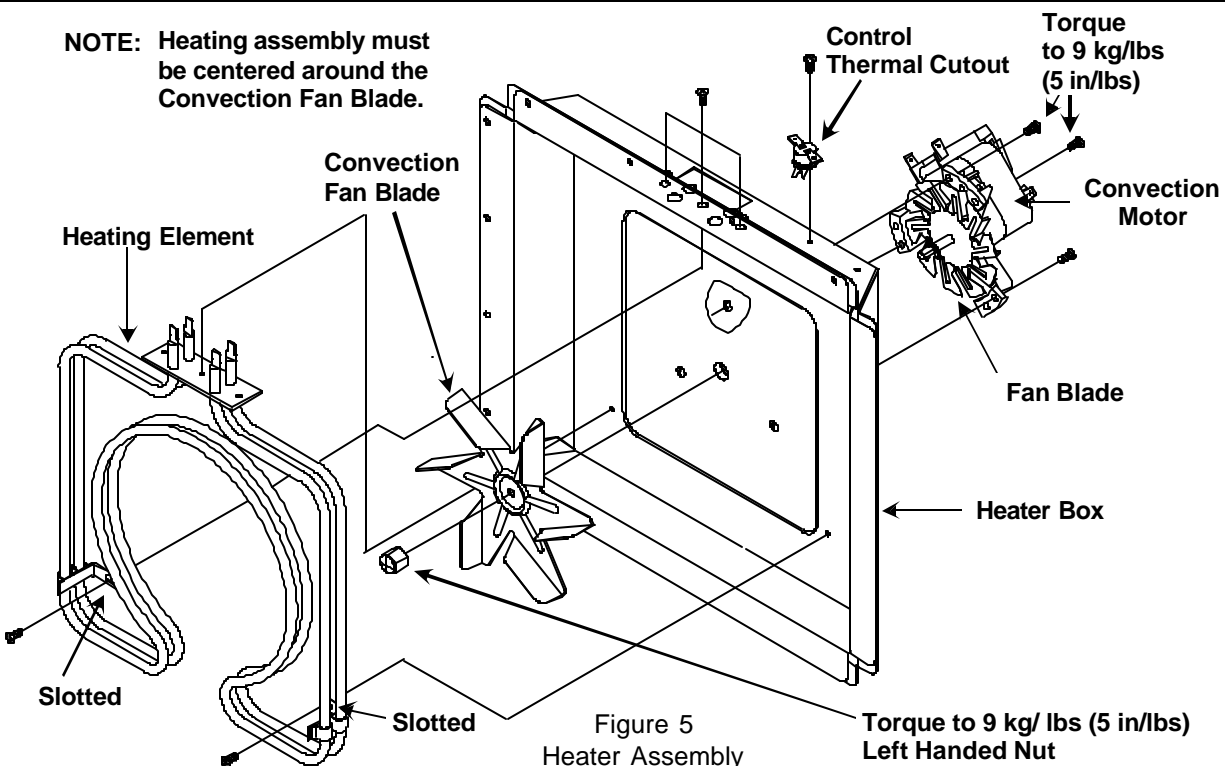

Figure 5
1. See "Component Location" Figure 5, for location.